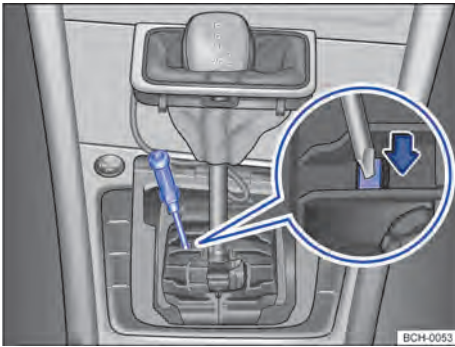

Fig. 96 Remove the selector lever cover and manually emergency unlock the selector lever lock.
- With the help of a screwdriver carefully press the release lever in the direction indicated by the arrow and keep it in that position → Fig. 96.